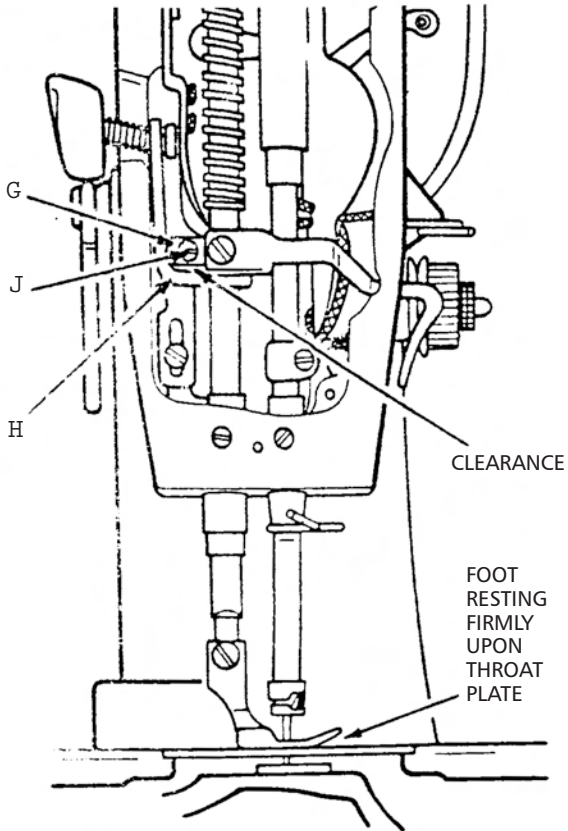

Fig. 5
1. When presser foot rests firmly upon throat plate (with feed dog below throat plate) there should still be some clearance between guide bracket G, Fig. 5 and lifting lever link H, as shown in Fig. 5.
Loosen clamping screw J, Fig. 5. Raise or lower guide bracket G, as required. Securely tighten screw J.